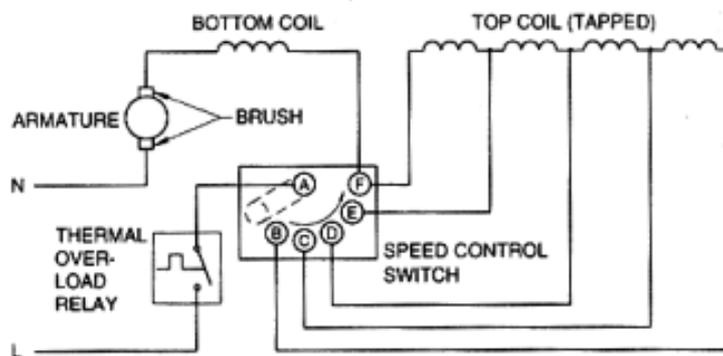

Fig. 11.3 - Schematic diagram of a typical portable 5 speed Food Mixer
**Speed control:** For speed control purpose, the tapped field coils are normally employed in mixie motor. The tapped field coils as shown in Fig.11.3, enables speed selection through a rotary switch provided in the Mixie. Normally 3 speed levels (1, 2 and 3) will be provided in the Mixie motor. By turning rotary switch clockwise, we can get speeds 1, 2 or 3 as desired.